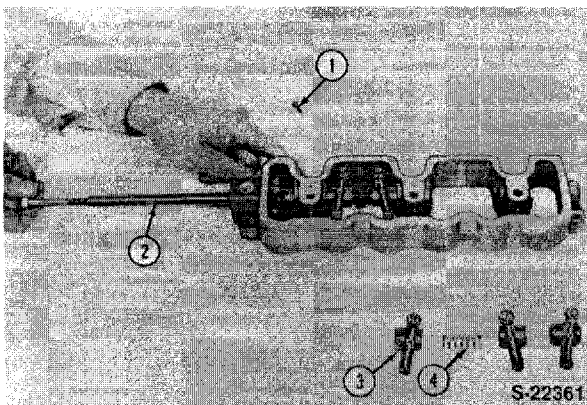

Figure 25
1. Remove the set screw (1), Figure 25.
3. Thread a 8 mm bolt into the rear end of the rocker shaft and slowly withdraw the rocker shaft while at the same time removing the rocker arms and springs, Figure 25.
NOTE: A set screw (1), Figure 25, locks the rocker shaft in place in the support. Remove the set screw before attempting to remove the rocker shaft.